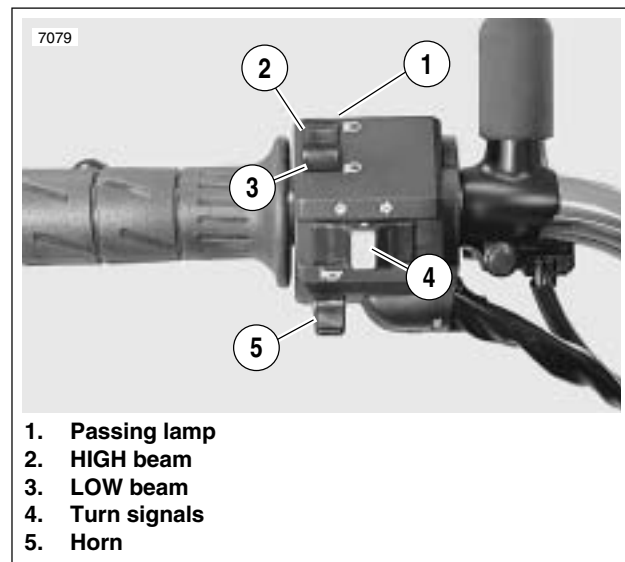

Figure 7-74. Left Handlebar Switches
3. See Figure 7-74. Check handlebar switch for proper operation. If operation fails, reread procedure and verify that all steps were performed.